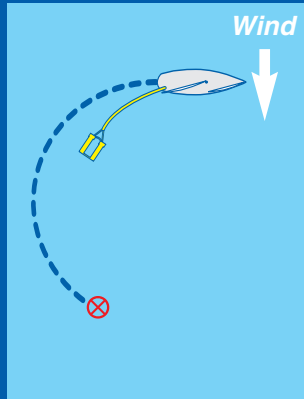

Fig. 11
2. Continue sailing through the eye of the wind but do not release the jib sheet. Allow the sail to backwind. (Fig. 11)